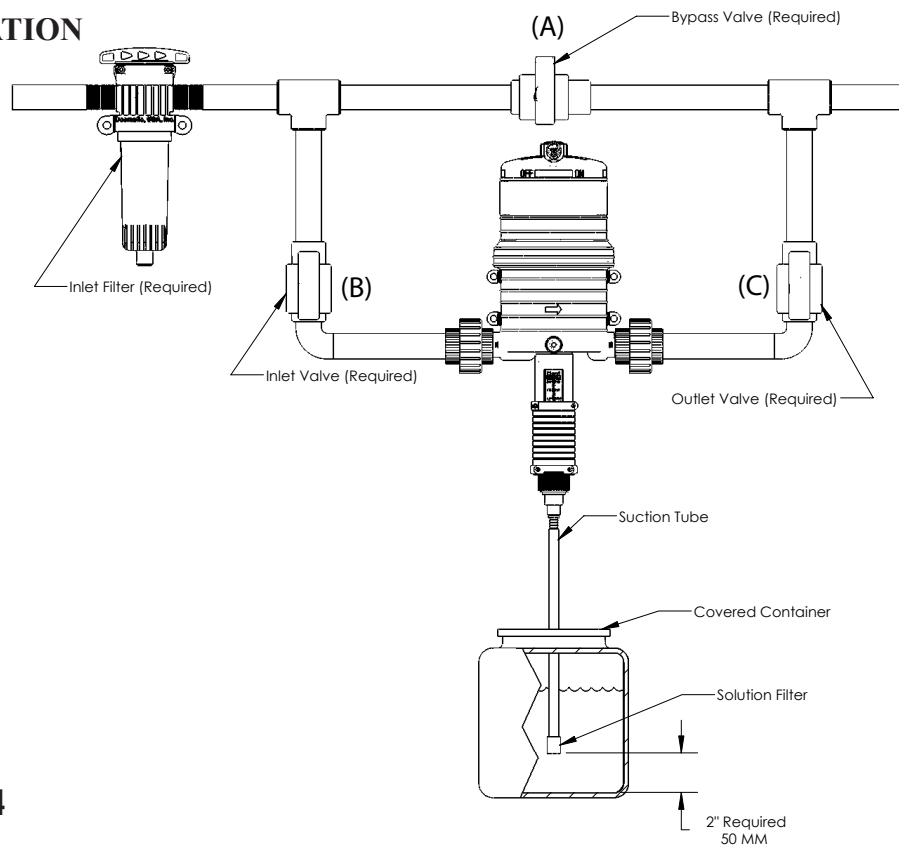

Fig.4
- 4. BYPASS VALVE:** To bypass injector when not in service or to service injector pipe in the three valve bypass arrangement as shown in Fig. 4
- 5. CHECK SYSTEM FOR LEAKS:** Open the bypass valve (A), close valves (B) and (C) so that the water will not flow into injector  **SLOWLY** turn on the main water line so that water will run through the plumbing system. Turn on all of the valves located downstream from your injector to release trapped air. Slowly turn on the inlet valve (B). Open the outlet valve (C) at injector outlet. Close (A). As water travels freely through your injector, you will hear a soft “clicking” sound.
- 6. SOLUTION CONTAINER:** Refer to figure 4. You may use any size container but we recommend using one with a lid or cover. To connect your solution container gently push the end of the suction tube (#25) onto the bottom of the fitting assembly (#11). Place the filter into the solution container at least 2 inches (5cm) from the bottom. Cover the solution filter with at least 2 inches (5cm) of chemical solution.